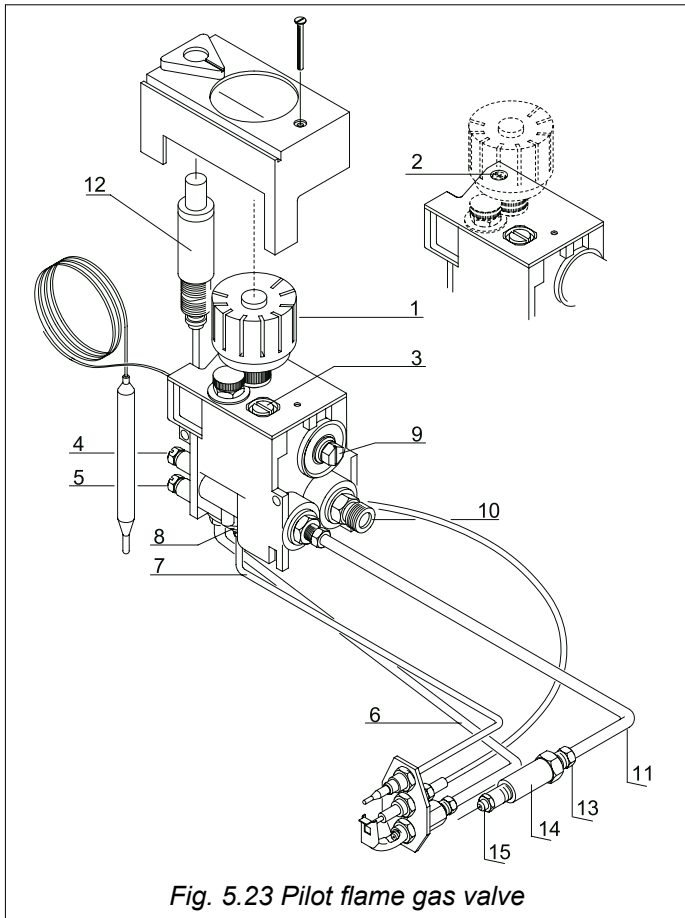

Fig. 5.23 Pilot flame gas valve
To check the outlet pressure (Natural gas) use the check point 4 (fig. 5.23) and 1 (fig. 5.25) placed above the valve outlet after removing the locking screw. In case the pressure value should not correspond to the valued indicated check (burner working) the inlet pressure trough the check point 5 (fig. 5.23). **The check point the inlet pressure must be like indicated in the tables 3.1.**
For gas LPG (butane-propane), the valve flow adjuster must be totally excluded. Turn anti-clock-wise 1/2 spin the pressure adjuster 9 (fig. 5.23) for pilot flame device (KING 21), while for electronic devices (KING 30 FE; KING 50 FE; KING 70 FE), turn completely the pressure adjuster 3 (fig. 5.23). To check the inlet pressure use the check point placed (point 5 fig. 5.23 and point 2 fig. 5.54) above the valve inlet gas connector (with burner running). Whenever the inlet pressure values should not correspond to the value indicated on the regulation data table, adjust the pressure (with burner running) manually trough the pressure adjuster placed on the top of the valve.
1. Set the dial (1) in the position (★) on the index (See fig. 5.23).
2. Press the dial (1) and keep it pressed down for approx. 10 seconds.
3. Press the piezoelectric button (12) to light the burner's pilot flame.
4. After lighting the burner's pilot flame, keep the dial (1) pressed down for approx. 10 seconds, and then release.
5. Turn the dial (1) counter-clockwise to fire the main burner and set it on the index at values from 1 to 7 which correspond to 13 ° - 38 °C respectively.
6. In order to switch the main burner off, rotate the dial (1) to the position (★) on the index. In order to switch the burner's pilot flame off (and consequently the unit itself), turn the dial (1) to the position (●) on the index.